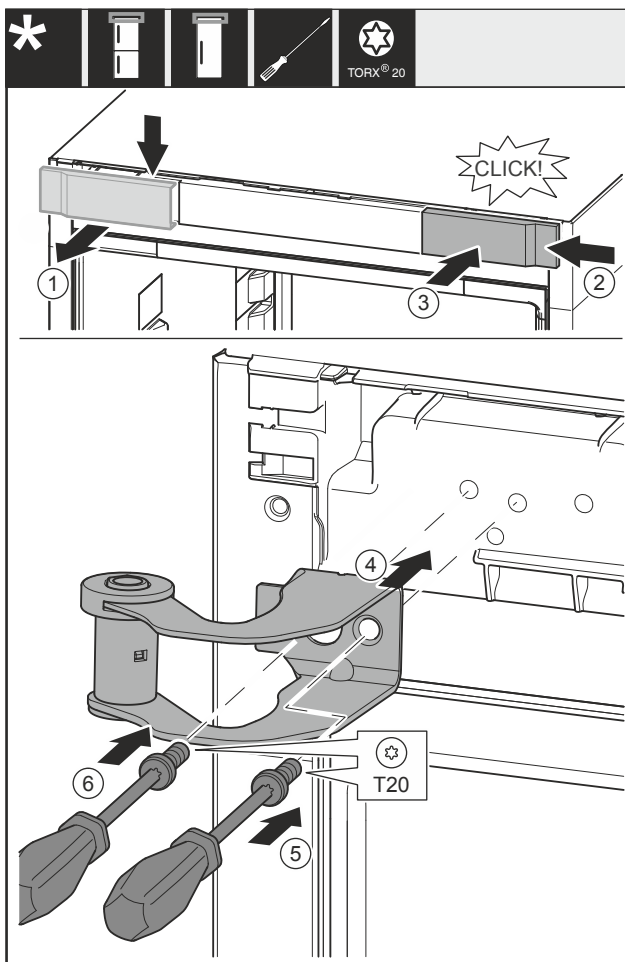

Fig. 17
- ▶ Remove the cover Fig. 17 (1) from above towards the front.
- ▶ Turn the cover Fig. 17 (2) by 180° and attach to the other side from the right.
- ▶ Engage the cover Fig. 17 (3).
- ▶ Place the top swap bearing block Fig. 17 (4).
- ▶ Screw the screw Fig. 17 (5) tight.
- ▶ Screw the screw Fig. 17 (6) tight.